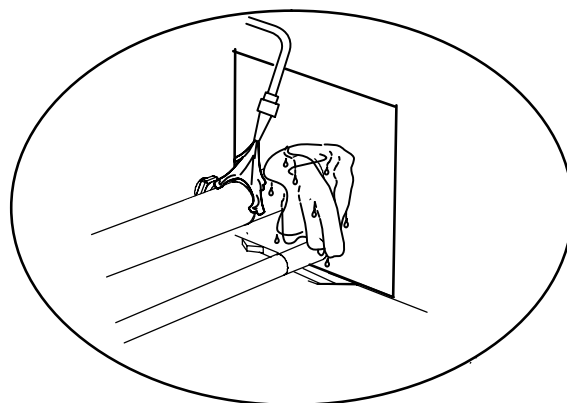

Figure 10. Brazing Connections
4. Connect the suction and liquid lines to the evaporator coil. Take care to protect the cabinet and internal components as detailed in Figure 10.